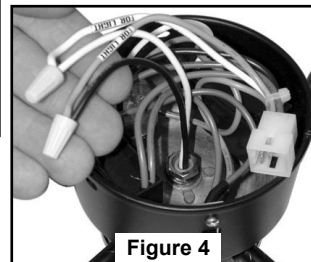

Figure 4
3. Attach the switch housing to the fitter/light kit by feeding the wires (black & white) through the hole of the switch housing, place lockwasher over the fitter/light kit leads & nipple and fasten the fitter/light kit with the nut provided onto the nipple. Be sure it is tight enough to prevent fitter/light kit from vibrating loose (Figure 4).
5. Connect them to the fitter/light kit wires (Figure 4);